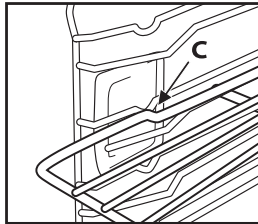

Fig. 3
3. Return the rack to the horizontal position and push it in fully "C" (Fig. 3).